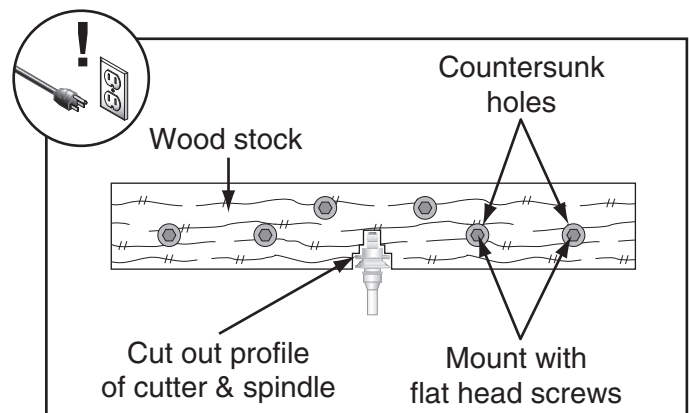

Figure 36. Example of a zero-clearance fence board.
4. Cut outline of spindle and router bit from center of the stock selected in **Step 3**, as shown in **Figure 36**.
5. Create countersunk mounting holes in zero-clearance fence board (see **Figure 36**) to secure new fence and router bit guard to base.